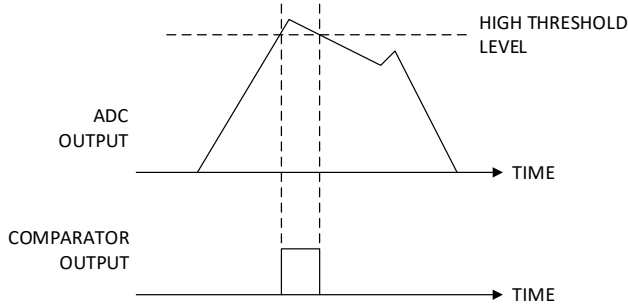

Figure 15. Comparator Behavior in Greater Than (GT) Output Mode
In greater than (GT) output mode, when the ADC output is greater than the high threshold level, the comparator output is set high. The comparator output is set low when the ADC output drops below the high threshold level. The behavior of the comparator in the GT output mode is shown in Figure 15.